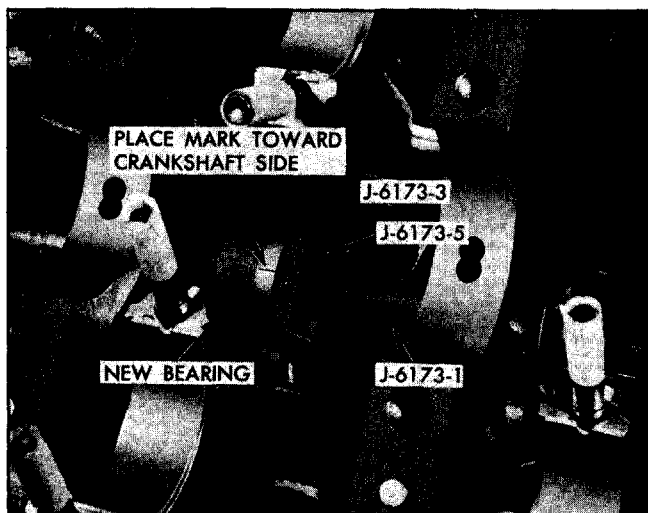

Fig. 6-71 Preparing to Install Bearing
4. Position Replacer Adapter J-6173-3, with bearing in position against shoulder, against rear of hole in which bearing is to be installed (Fig. 6-71). Index mark on shoulder of Replacer must point up (toward crankshaft side) to properly position bearing.
6. Slip key J-6173-5 into notches in shaft behind Replacer Adapter J-6173-3 and tighten nut to start bearing into hole (Fig. 6-71). Continue to tighten nut until bearing has been pulled completely into its hole. When properly positioned, it will be approximately flush with both sides of the transverse member. **NOTE:** Rear bearing should be pulled in until front edge is flush with block. This will leave shoulder at end of counterbore for camshaft rear plug visible behind bearing.